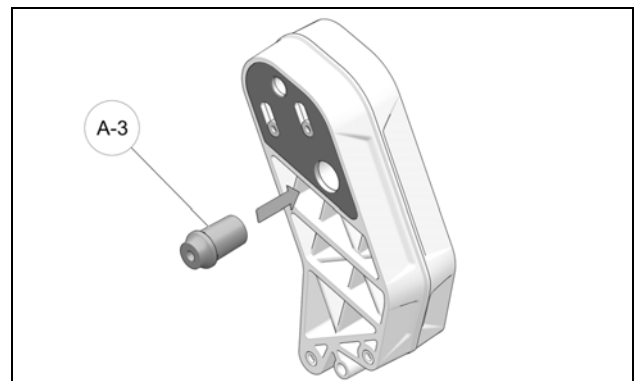

Figure 5
- Insert T-Bushing (A-3) in the Ski Upright's lower right hole. See Figure 5.